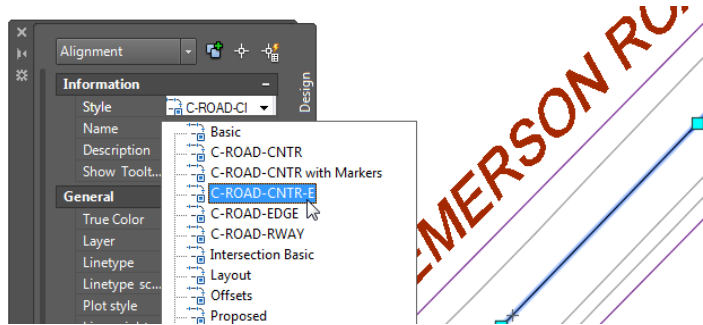

FIGURE 6.2 Assigning an alignment style in the Properties window
3. Change the style to C-ROAD-CNTR-E, as shown in Figure 6.2.